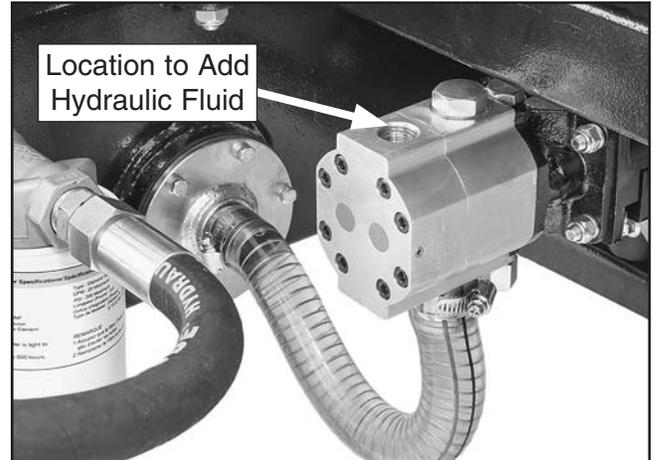

Figure 21. Pump pressure port.
- Remove plastic cap from pump pressure port and add a couple of tablespoons of hydraulic fluid into pressure port (see **Figure 21**).